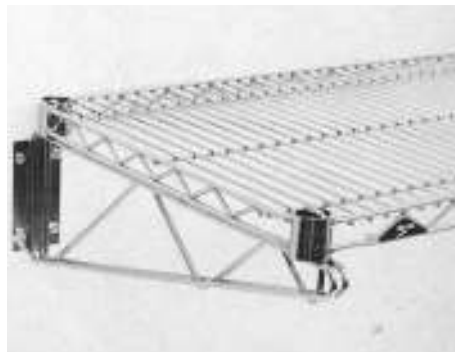

Fig. 5
7. Mount the shelf by positioning the corner collars on the shelf over the retaining loops of the shelf supports (Fig. 5).